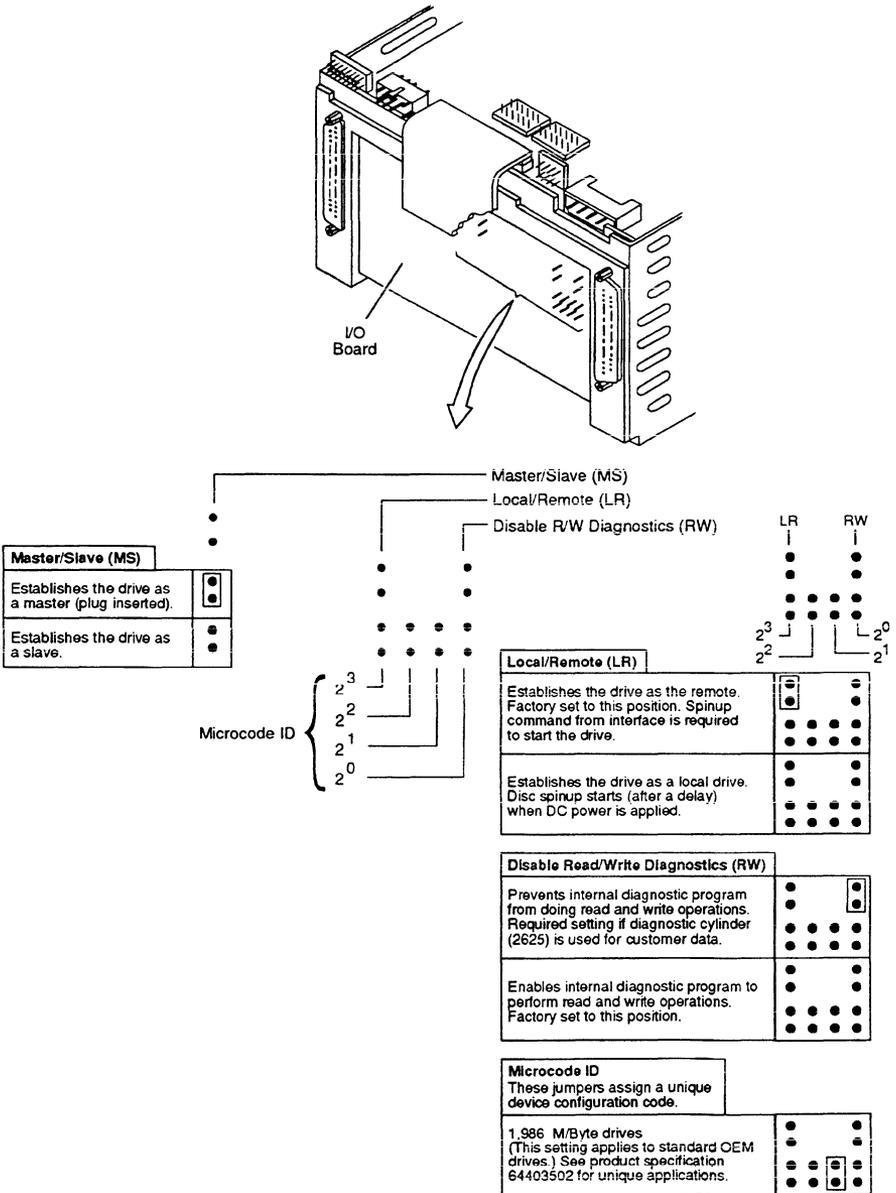

Figure 6. I/O board jumpers
- Figure 6—identifies jumpers, gives their locations on the I/O board, and lists the possible settings for normal drive operation for jumpers on the I/O board.